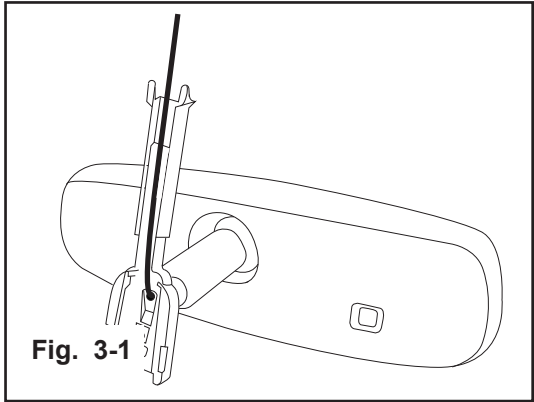

**Fig. 2-1**
- a) Hold the mirror head and slide the mount downwards as far as possible over the windshield button, until fully seated. (Fig. 2-1)